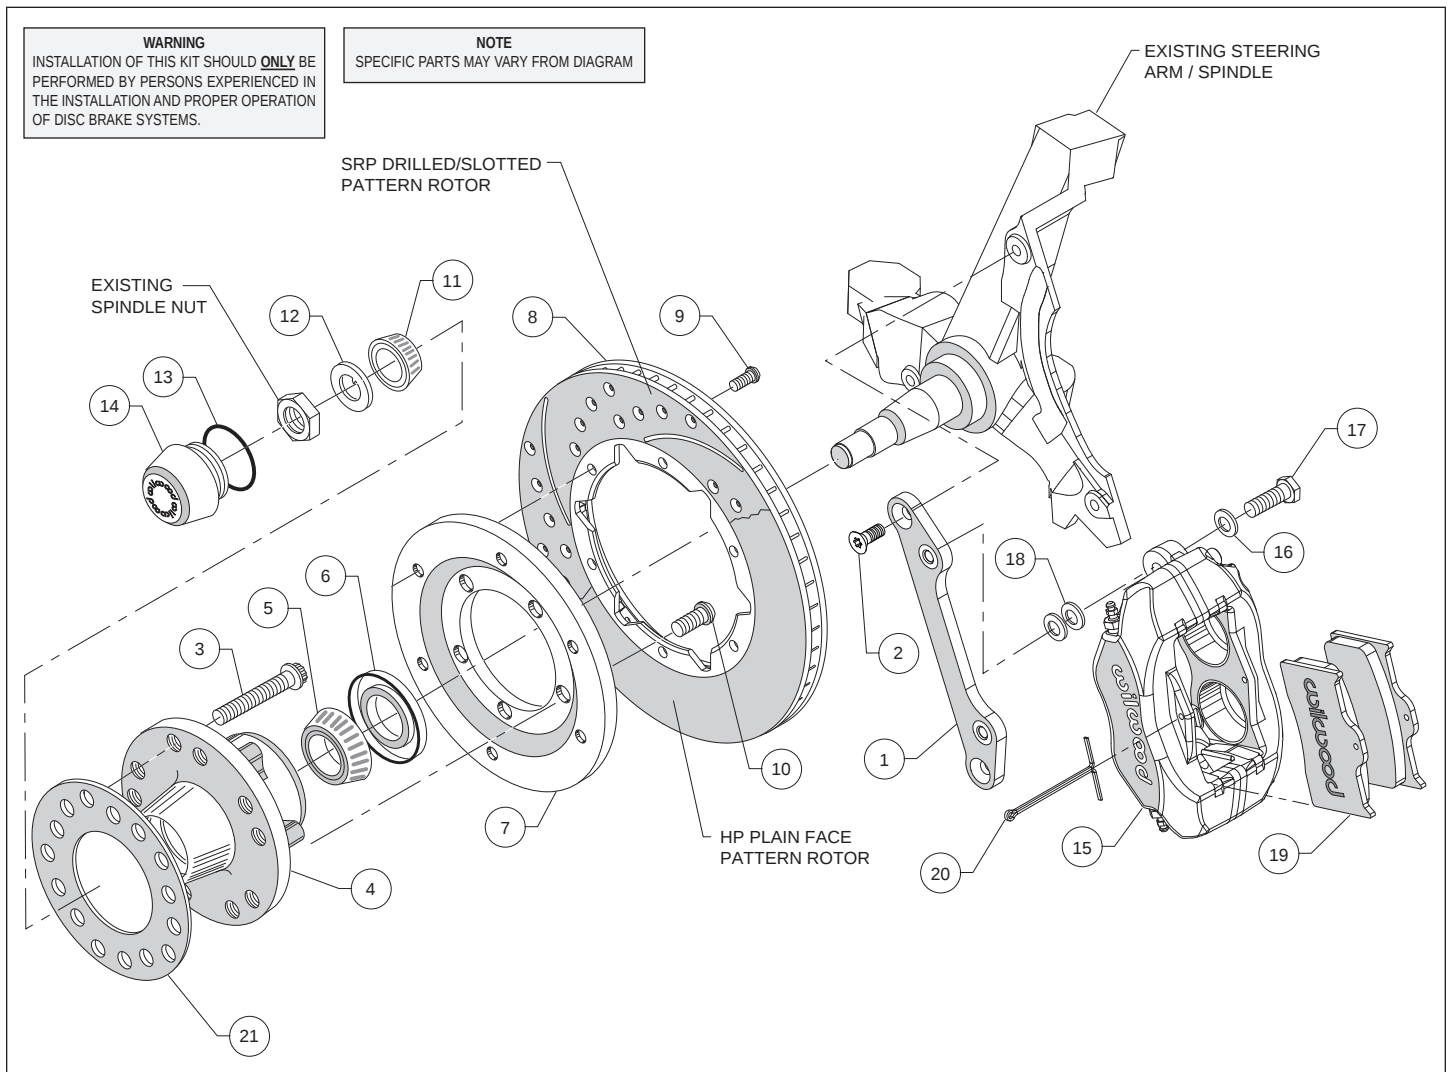
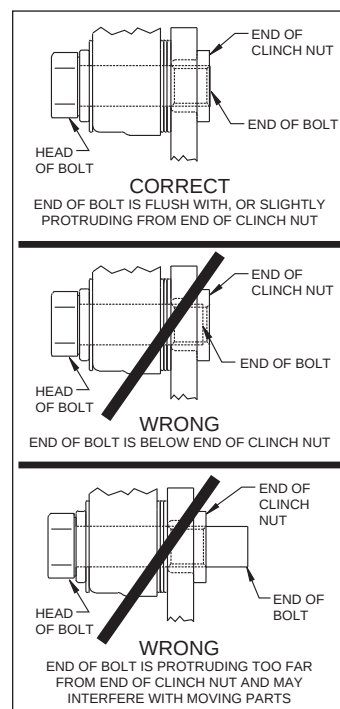

Figure 2. Typical Installation Configuration
Figure 4. Clinch Nut Engagement Diagram
Assembly Instructions (numbers in parenthesis refer to the parts list, above and Figure 2): **CAUTION:** All mounting bolts must fully engage clinch nuts. Be sure to check that all bolts are either flush or protruding through flanged side of clinch nut after shimming, Figure 4.
- Align caliper mounting bracket (1) with the corresponding holes, to the face of the spindle. Attach using bolts (2) as shown in Figure 2 and Photo 1. Temporarily tighten the mounting bolts. Ensure that the flanged heads of the clinch nuts in the bracket are facing outboard, Photo 1. **NOTE:** The bracket must fit squarely against the mounting points on the spindle. Inspect for interference from casting irregularities, machining ridges, burrs, etc. Remove bolts one at a time, apply red *Loctite*® 271 to threads and torque to 40 ft-lbs.
- Install wheel studs (3) into the hub (4), Photo 2. Torque to 77 ft-lb. **NOTE:** There are two five lug patterns in the hub (5 x 4.50 and 5 x 4.75). Ensure the correct hub stud pattern is being used to fit the wheel application.
- Pack the large inner bearing cone (5) with high temperature disc brake bearing grease (available from your local auto parts store) and install into the backside of the hub (4), Photo 3.
- Install the grease seal (6) by pressing into the backside of the hub (4), flush with the end of the hub, Photo 3.
- Orient the rotor (8) and the rotor adapter (7) as shown in Figure 2 and Photo 4. Attach the rotor to the adapter using bolts (9). Using an alternating sequence, apply red *Loctite*® 271 to the threads, and torque to 25 ft-lb.
- Mount the adapter/rotor assembly (7/8) to the hub (4) using bolts (10), as shown in Figure 2 and Photo 5. Using an alternating sequence, apply red *Loctite*® 271 to the threads, and torque to 55 ft-lb.
- NOTE:** Please reference the caution statement at the beginning of the assembly instructions. Mount the caliper (15) onto the caliper mounting bracket (1) using bolts (17) and washers (16), as shown in Figure 2. Initially place two .035" thick shims (18) on each bolt between the caliper and the bracket, Photo 8. Temporarily tighten the mounting bolts and view the rotor (8) through the top opening of the caliper. The rotor should be centered in the caliper, Photo 9. If not, adjust by adding or subtracting shims between the bracket and the caliper. Always use the same amount of shims on each of the two mounting bolts. **NOTE:** The end of each bolt must be flush with or slightly protruding from the head of the clinch nut, as shown in Figure 4. If necessary place spare shims between washer (16) and caliper mounting ear to achieve the proper clinch nut engagement. Once the caliper alignment and clinch nut engagement are correct, remove the bolts one at a time, apply red *Loctite*® 271 to bolt threads, and torque to 40 ft-lb.